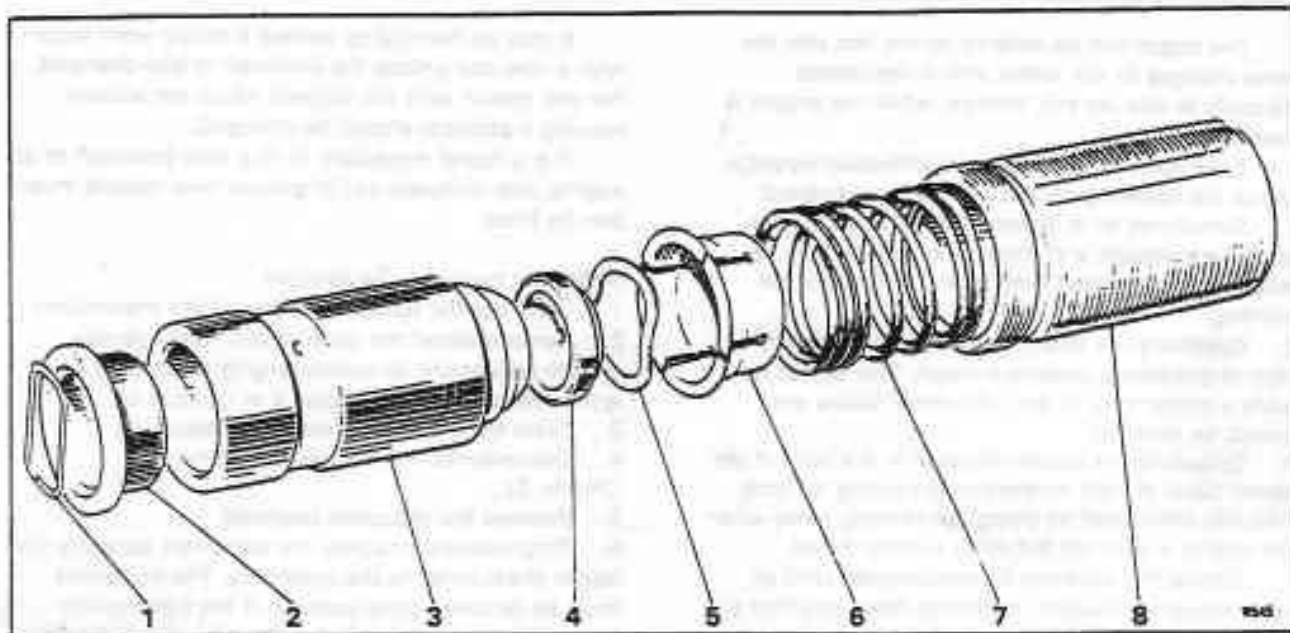

Fig. E7-4 Hydraulic tappet
The hydraulic tappet (see fig. E7-4) comprises a cylindrical barrel, closed at the bottom end which seats onto the camshaft. Inserted into this body is a plunger that is free to slide up and down; the clearance between the body and plunger is very small. At the lower end of the plunger is a one-way valve. The valve is held closed by a wave washer that is housed in a retainer spigot, clipped onto the end of the plunger.
spherical cap, the tappet can be dismantled (see fig. E7-4).
1. Commence assembly of the tappet by fitting the wave washer (see fig. E7-4) and valve in the retainer.